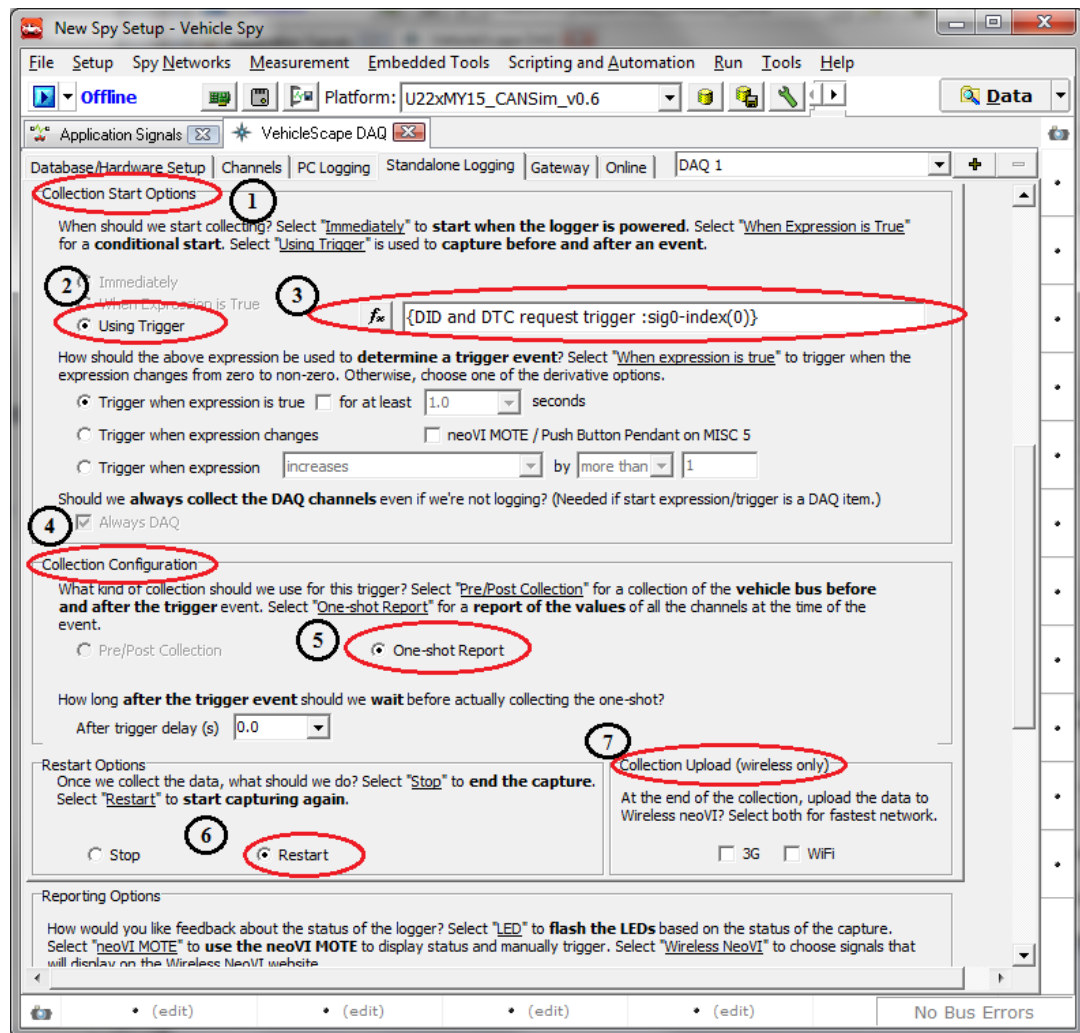

Figure 12.b: VehicleSpy configuration for collection options
- Collection start option (Figure 12.b (1)):
- Select 'Using Trigger Expression' option(Figure 12.b (2)).
- Click on  tab(Figure 12.b (3)). It will open 'Select start Expression' window.